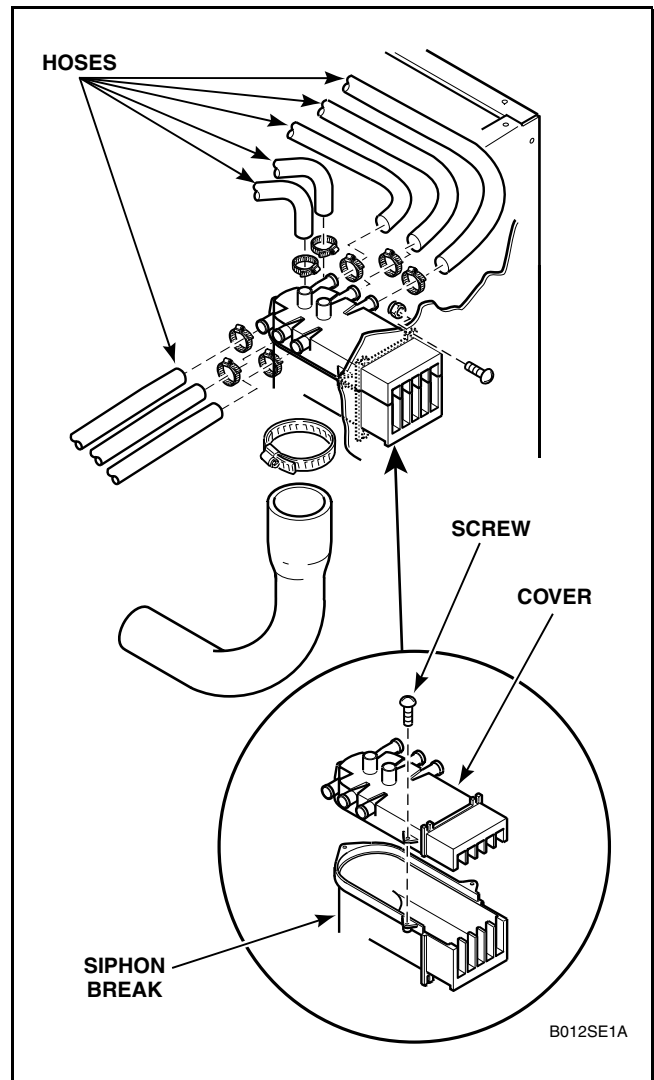

Figure 13
- Loosen hose clamps and carefully remove all hoses from siphon break, refer to *Figure 13*.
- Remove nuts holding siphon break to rear channel and remove siphon break, refer to *Figure 13*.